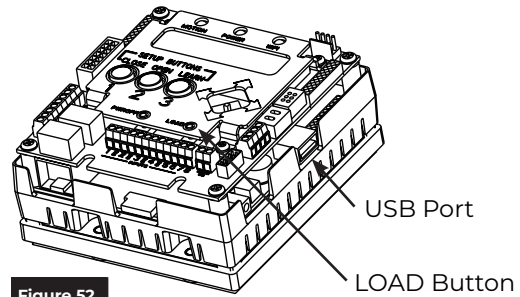

Figure 52
2. Insert the USB drive into the USB port on side of the inverter. (Figure 52)
3. Press and hold the LOAD button for 3 seconds and release when all LEDs light up. (Figure 52)